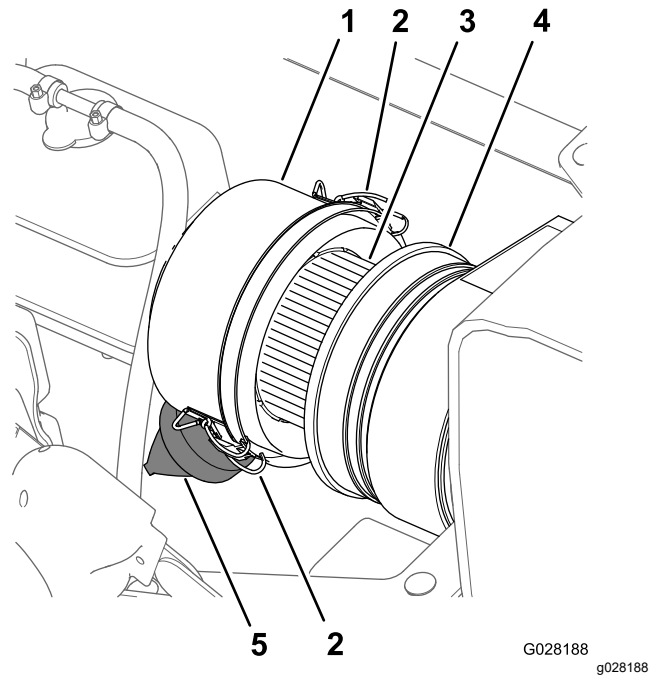
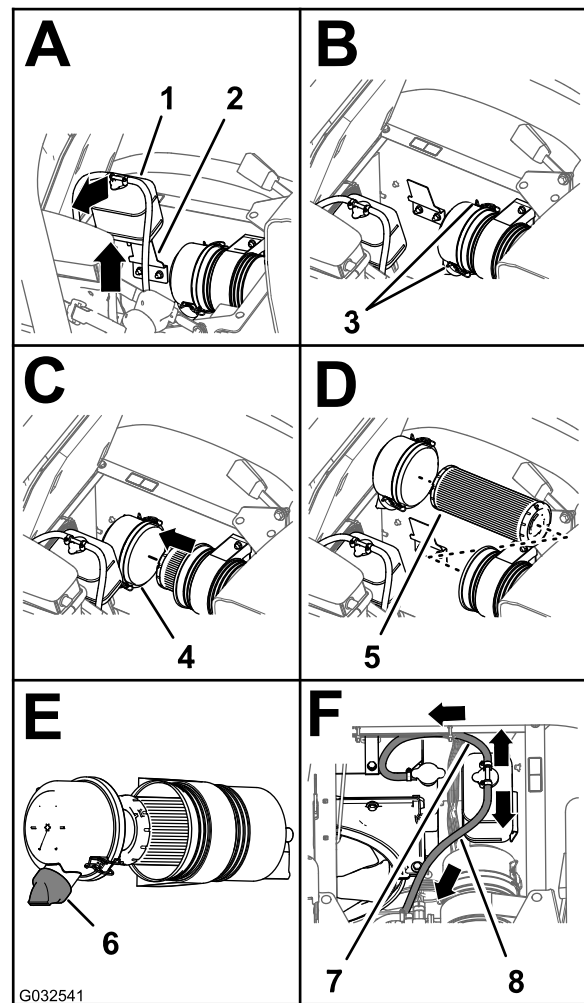

Figure 76
Figure 77
3. Clean the dust cap and air-cleaner body (Figure 76).
4. Check the air-cleaner body for damage that could cause an air leak (Figure 76).
5. Squeeze the dust valve to clear it of dirt, dust, and debris (Figure 76).
7. Check the air-filter element for excessive accumulation of dust, dirt, and debris (Figure 76).
8. Install the dust cap onto the air-cleaner body and secure the cap with the 2 latches (Figure 76).
2. Clean the dust cap and air-cleaner body (Figure 76).
3. Lift the coolant-overflow tank up and off the tank-support bracket (Figure 77).
4. Loosen the 2 latches that secure the dust cap to the air-cleaner body (Figure 77).
6. Clean the inside of the dust cap, air-cleaner body, and dust valve with a damp rag (Figure 76 and Figure 77).
7. Insert the air-filter element into the air-cleaner body (Figure 77).
8. Install the cover onto the air-cleaner body and secure the cover with the 2 latches (Figure 77).
Note: Ensure that the dust valve is aligned between the 5 to 7 o'clock position when viewed from the end (Figure 77).
9. Align the coolant-overflow tank to the tank-support bracket and seat the tank firmly (Figure 77).
Important: Ensure that the pressure-relief hose is routed forward and down, and the tank-vent hose is routed rearward as shown in Figure 77.